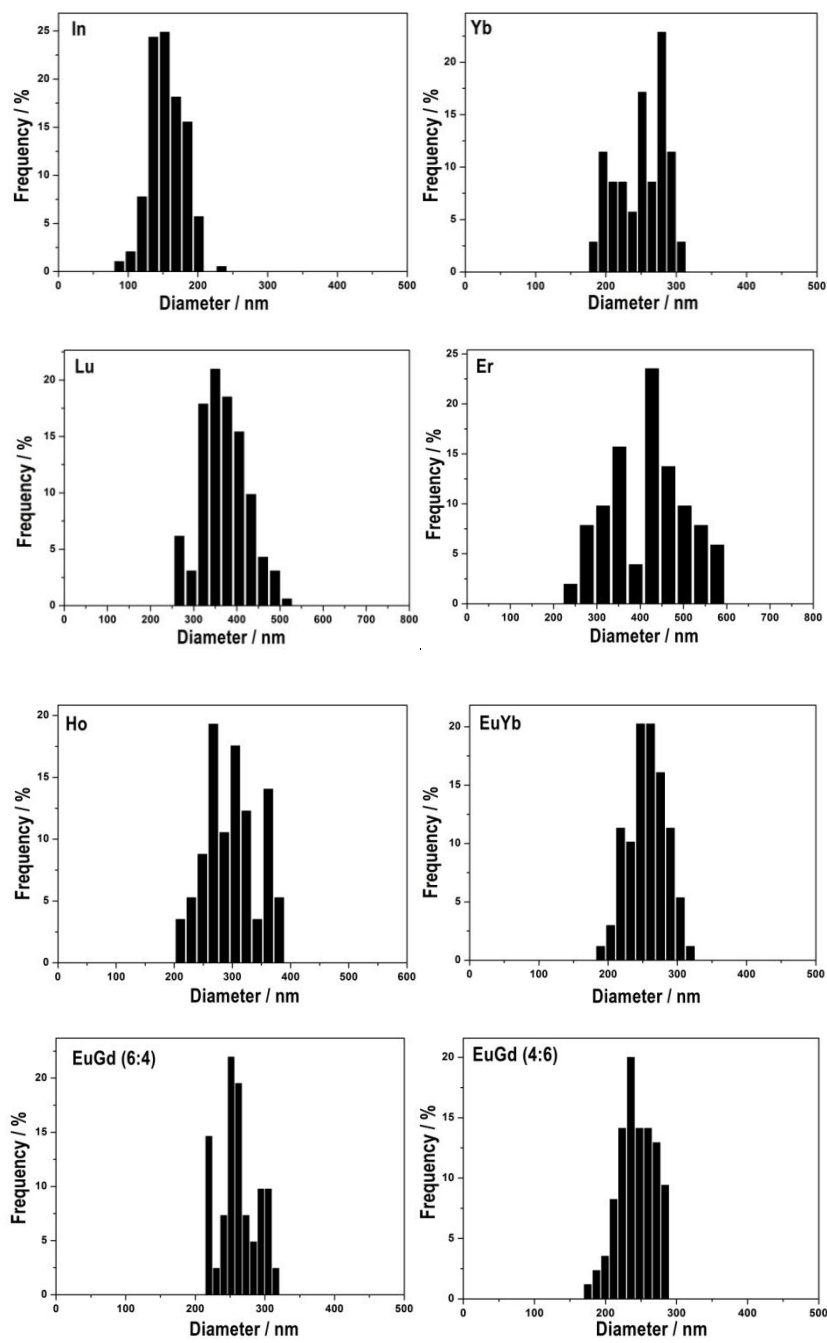

Fig. S6 Size distribution diagrams of M-CPs.
7. **Fig. S6** Size distribution diagrams of M-CPs.